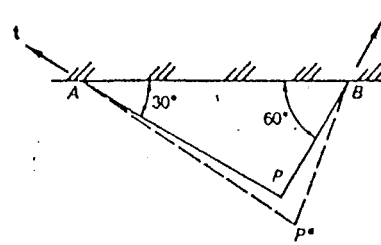

Fig. P2.34
2.34. A thin plate is in the form of a 30° - 60° - 90° triangle and is supported along its hypotenuse as shown in Fig. P2.34. It is subjected to the uniform strains $\epsilon_x = .004$, $\epsilon_y = .003$. Compute the approximate value of $\gamma_{xt}(P)$.